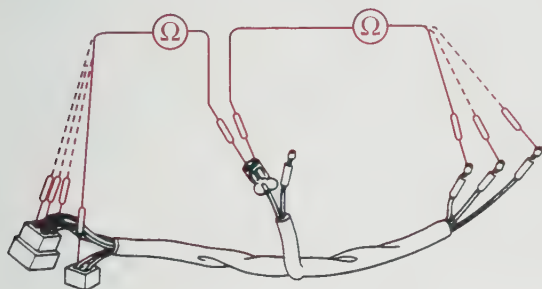

Figure 5-44. Checking for a shorted wire or wire harness. (Honda Motor Co., Ltd.)
3. Shorted wire or wire harness, **Figure 5-44**. To see if the green or black/red wire is shorted, check the continuity between different colored wires. If you have continuity between other wires, replace the wire harness.